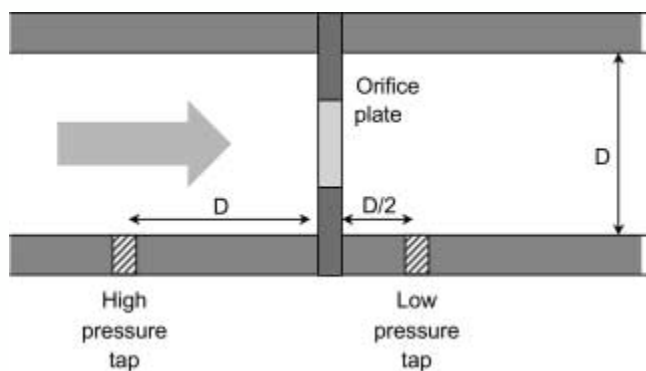
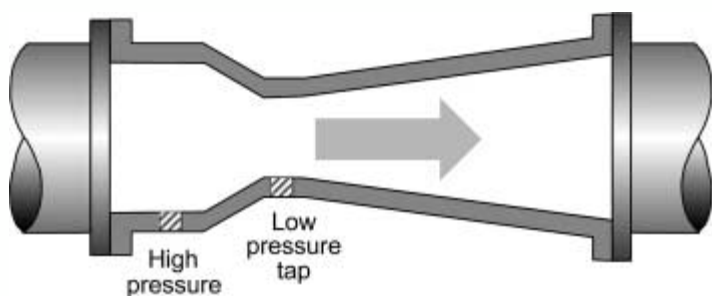
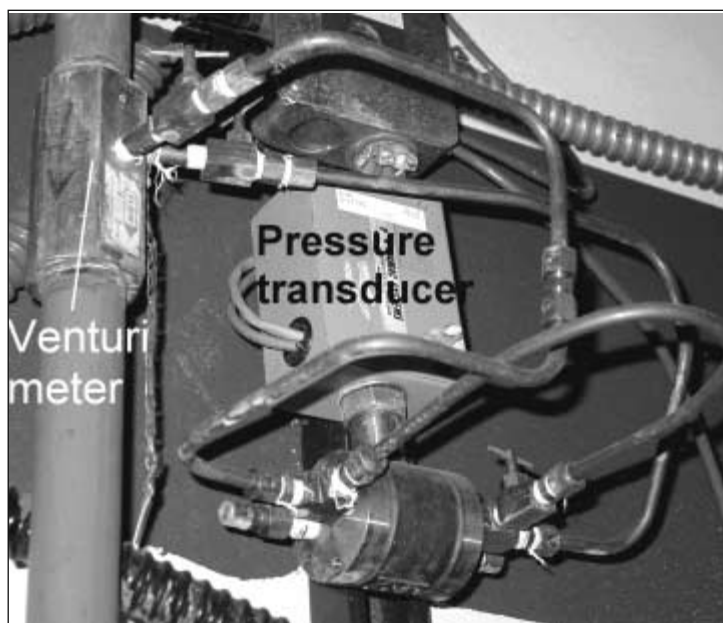

FIGURE 5.20 Cross section of orifice plate flow meter.
FIGURE 5.21 Cross section of venturi flow meter.
FIGURE 5.22 Venturi meter with attached pressure transducer.
*Orifice plates* (Figure 5.20) and *venturi meters* (Figure 5.21) are constrictions in the pipe that create pressure drops in the fluid stream. The pressure drops are correlated to the flow rate given the fluid's density and kinematic viscosity. Orifice plates create higher system pressure drops than venturi meters, but they are much less expensive. These devices are permanently installed in the piping system and are connected to pneumatic or electric transmitters (Figure 5.22) that send the flow signal back to the control system.